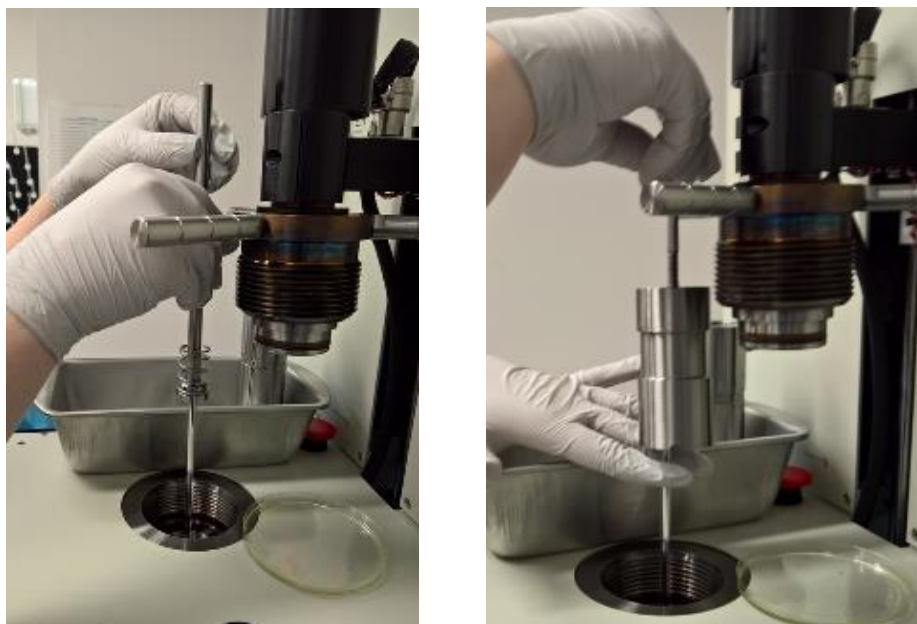

Figure 31. Removing macro cell sheath and housing from the high pressure chamber
- For normal cells, remove weight and spacers and transfer the cell to the 500 mL “After HP” wide mouth bottle. For macro cells, remove the macro cell housing first by using the placement tool (after removing the sheath) as shown in Figure 31, and then place the cell in the bottle for transport. Place all the parts directly into the metal tray, avoiding drips. Then cover the tray and put it back on the right side of the PoreMaster.